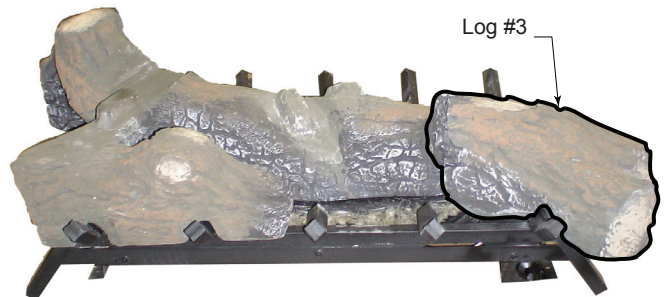

Figure 3 - Place Log #3
3. Place log #3 on farthest right grate tine by aligning the 'V' notch in log with grate tine. The groove in the bottom of the log should sit on the filler bracket surrounding the pilot assembly. *Figure 3*